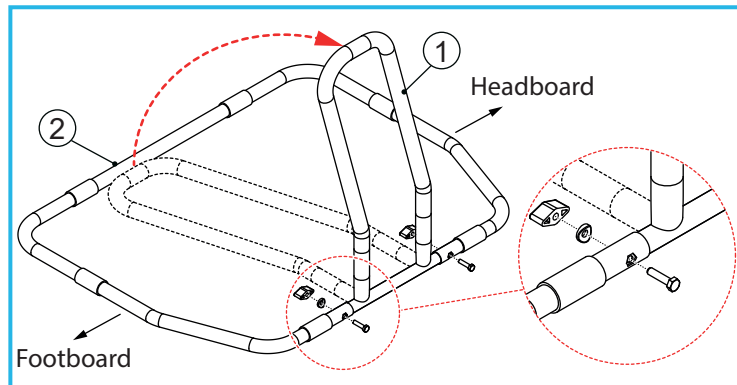

Figure 3: LHS Assembly
1. Refer to Figure 3. Position the bed rail base (2) as shown.
2. Rotate the bed rail handle (1) 90 degrees.